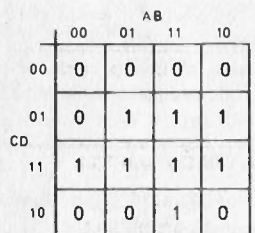

Fig. 1.8e. The full Karnaugh/Veitch map of equation 1
The full map for equation (1) is shown in Fig. 1.8e; as you can see, if there are any blank spaces we put a '0' in them.
We must now look for groups of '1's in the map; a group consists of 2, 4, 8 or 16 '1's adjacent to each other in squares or rectangles, with no '0's included. (If there are 16 '1's, then the map is full, and the solution is  $Q = 1$ ; this is a rare and somewhat trivial case!) Groups can "fold round" the sides or the top. For example, in Fig. 1.8e you could form a '2 group' from square  $A\bar{B}C\bar{D}$  and square  $\bar{A}B\bar{C}D$ .